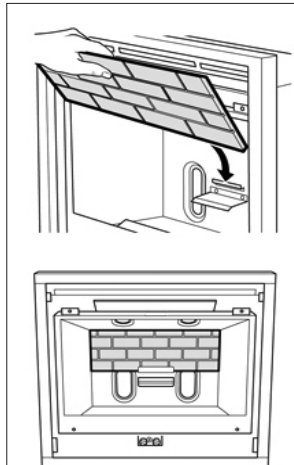

Figure 32 Rear wall
1. Locate the ceramic rear wall in the channel at back of the firebox and flat against the back of the firebox. See figure 32.